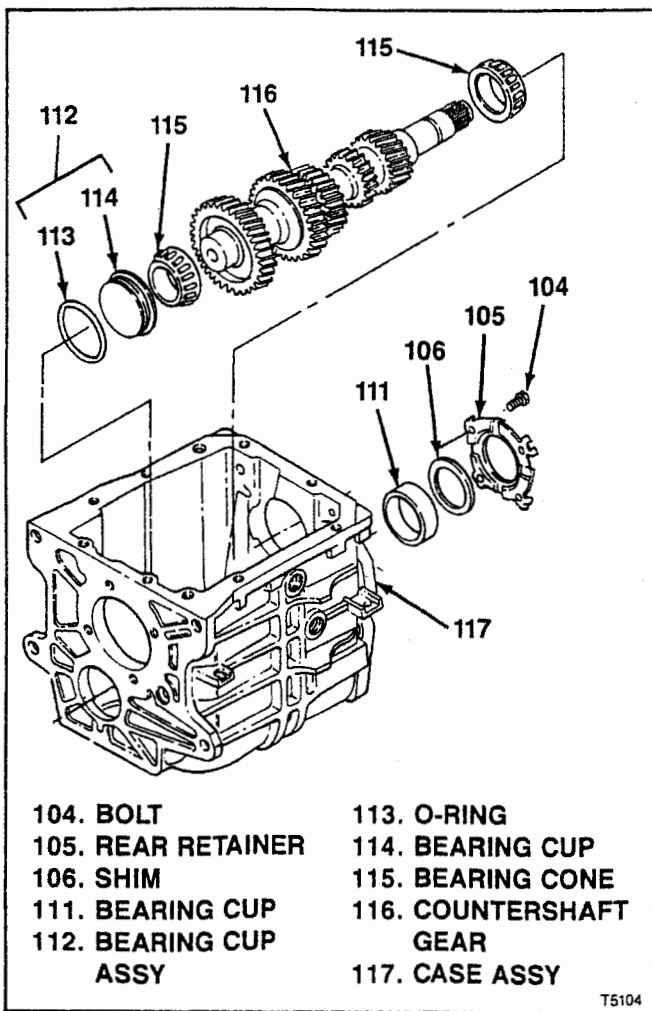
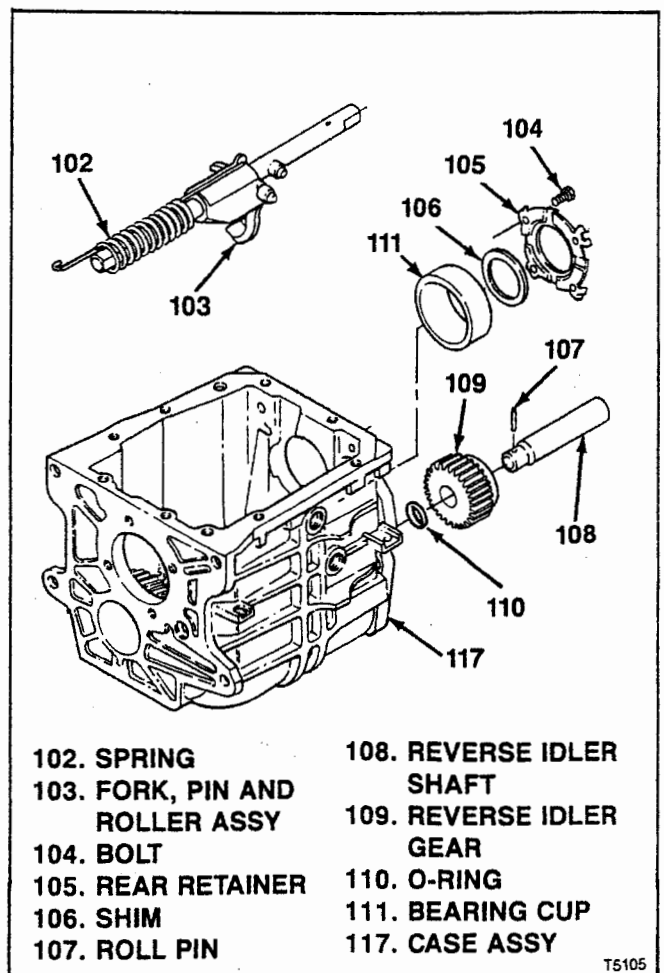

Figure 6-5. T5 WC Countershaft Gear
Figure 6-6. T5 WC Reverse Fork and Idler Gear
6-8. ASSEMBLY AND INSTALLATION OF T5 WC COUNTERSHAFT GEAR (see figure 6-5):
6-9. INSTALLATION OF T5 WC REVERSE FORK AND IDLER GEAR. With assembly completed as described through paragraph 6-8, proceed as follows (see figure 6-6):
- a. Install 5th speed drive gear (55) and blocking ring (54) on end of countershaft gear (116, figure 6-5).
- b. Attach 5th shift fork (51) to shift rail assembly (53) with roll pin (50). Install inserts (52) on 5th shift fork.
- c. Engage 5th shift fork (51) with previously assembled (paragraph 6-7) 5th synchronizer assembly (45) and install together in transmission noting the following:
2. Guide shift rail assembly (53) through reverse fork, pin and roller assembly and spring (103 and 102, figure 6-6) previously installed.
- d. Install 5th synchronizer retainer (44) and snap ring (43).
- a. Install oiling funnel (25) in end of shaft of countershaft gear (116, figure 6-5). Use petrolatum to help hold in place.
- b. Install damper sleeve (21) in offset lever (20).
- c. Make sure plug (19) and detent guide plate (18) are installed in extension (17A) or adapter (17B).
d. Apply continuous 1/16 in. (1.6 mm) bead of sealant (Neutral Cure RTV, Loctite 598) all around transmission case (117) mounting face for extension (17A) or adapter (17B). Center sealant bead between edges of face. Circle bolt holes.
e. Lubricate detent guide plate (18) in extension (17A) or adapter (17B) with lithium grease. Position extension or adapter so that it easily can be picked up and installed on transmission.